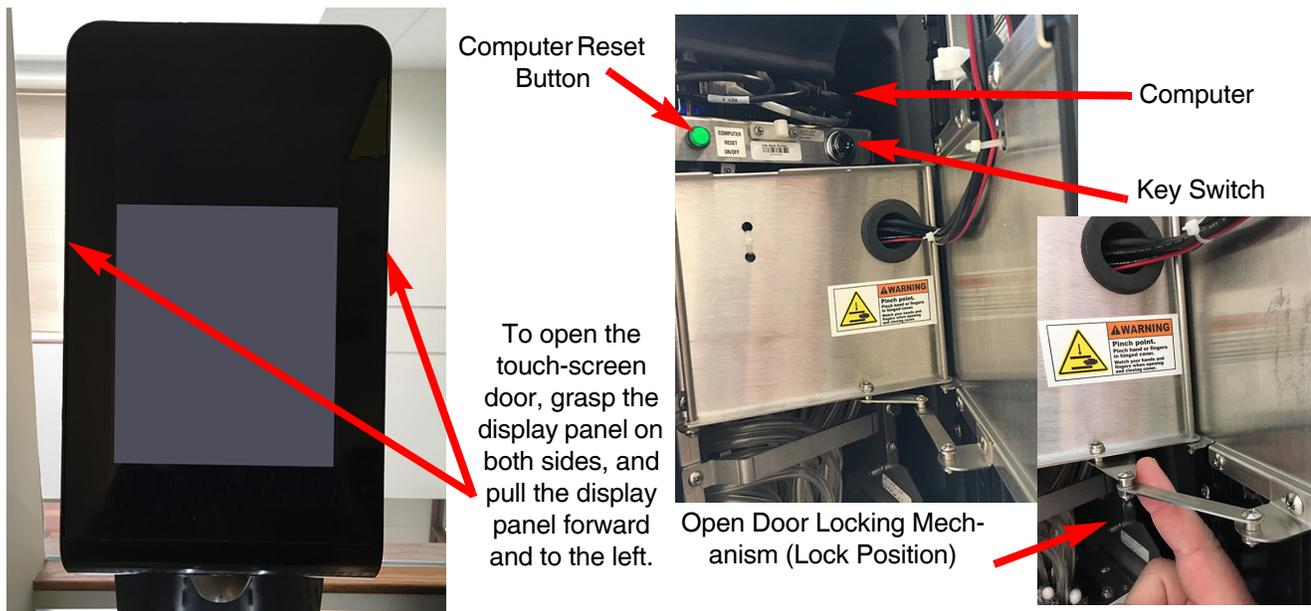

Figure 10.
2. If the display does not come on, open the touch screen door by placing both hands on the display screen and pulling forward. See Figure 10, left.
3. With the door in the 90° position locate the **open-door locking mechanism** (see Figure 10, lower right) and pull the mechanism out to stabilize the opened door. Then, move the display panel to the left, away from the unit.
4. With the door open, on the inside of the unit, locate the **key switch** and turn it to the ON position. (See Figure 10, center). If the unit does not power-up, refer to “Troubleshooting” on page 42.